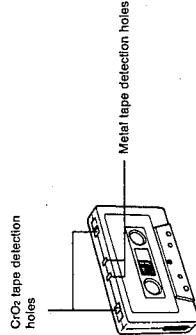

Fig. 2
1) Loose tape may become tangled in the tape transport mechanism. Remove slack by winding the tape with a pencil. (Fig. 2)